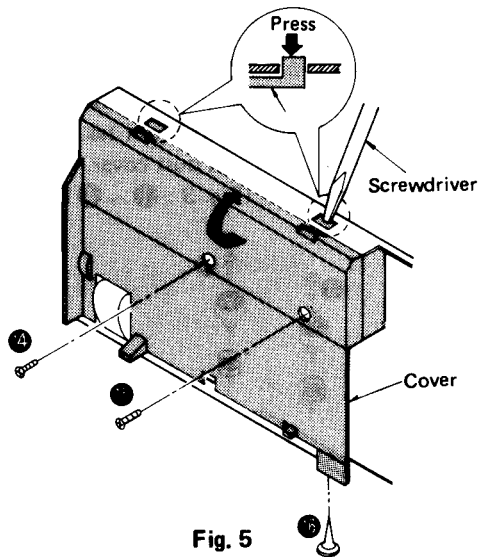

Fig. 5
2. Remove the 2 setscrews and pin of the arm motor cover. (Fig. 5 : ⑭ ~ ⑯).
3. Press the 2 lugs of the cover with a screwdriver and remove the motor cover. (See Fig. 5)